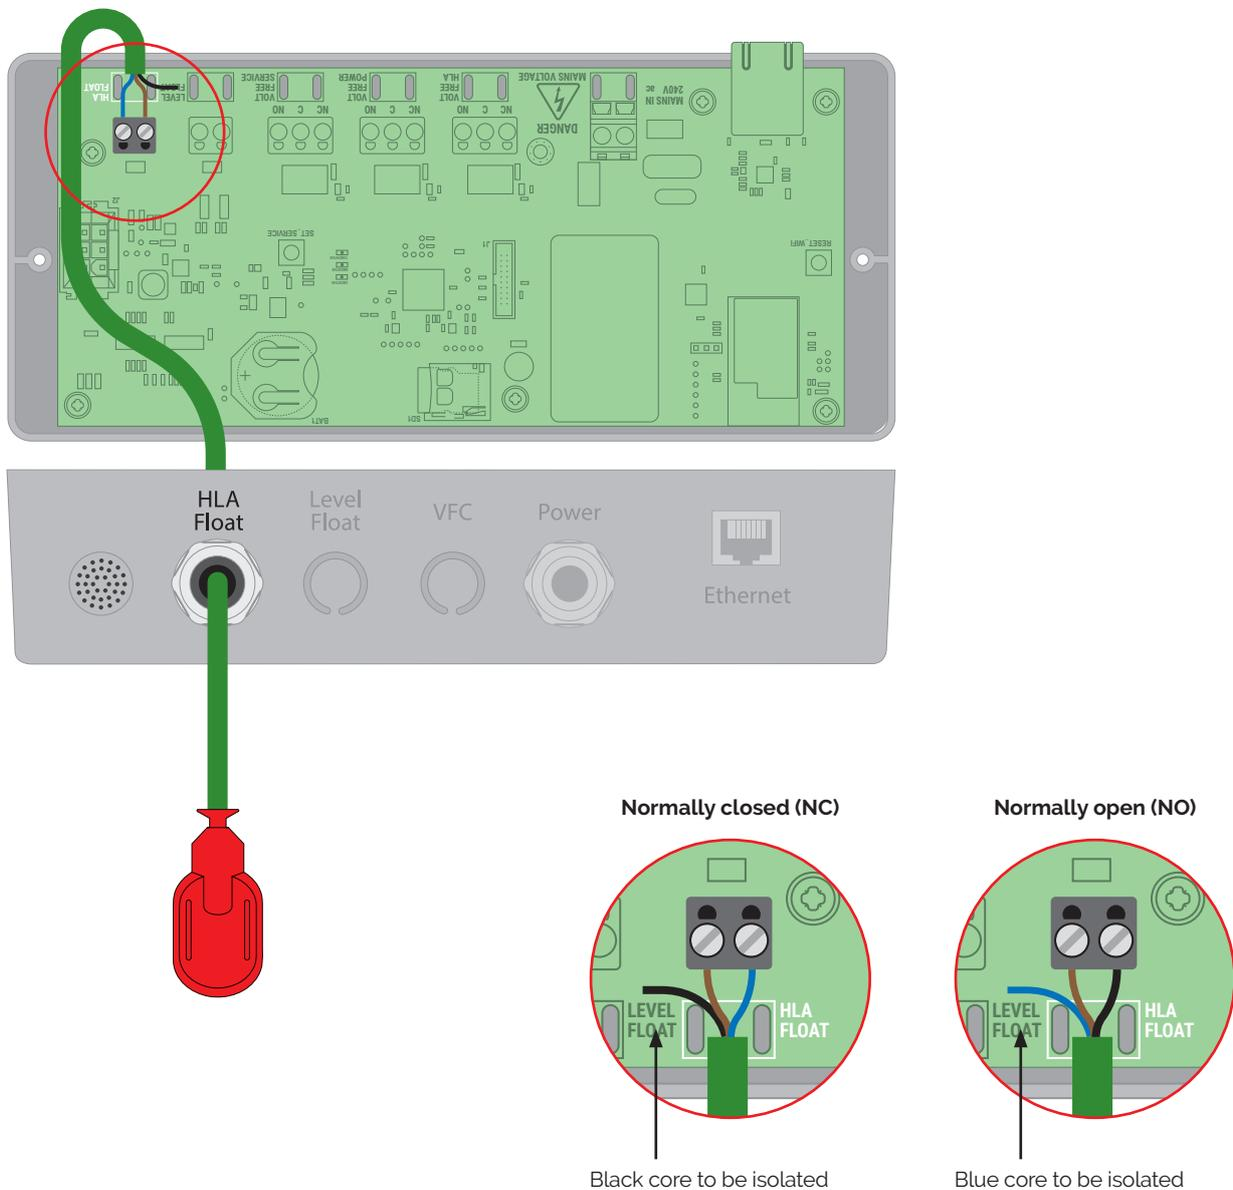

Figure 11. Connecting the Delta Pendant Float Switch to the Delta HLA Plus Control Unit.
1. Loosen the float switch cable gland located on the underside of the Delta HLA Plus Control Unit, as shown in Figure 11.